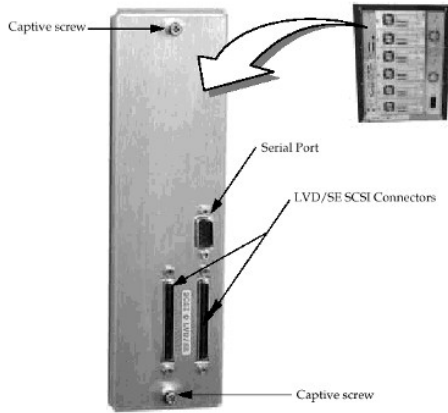

Figure 5. Host SCSI Interface PCBA
Step 1 Connect the serial cable from the PC to the serial port located on the library Host SCSI PCBA. See Figure 5.